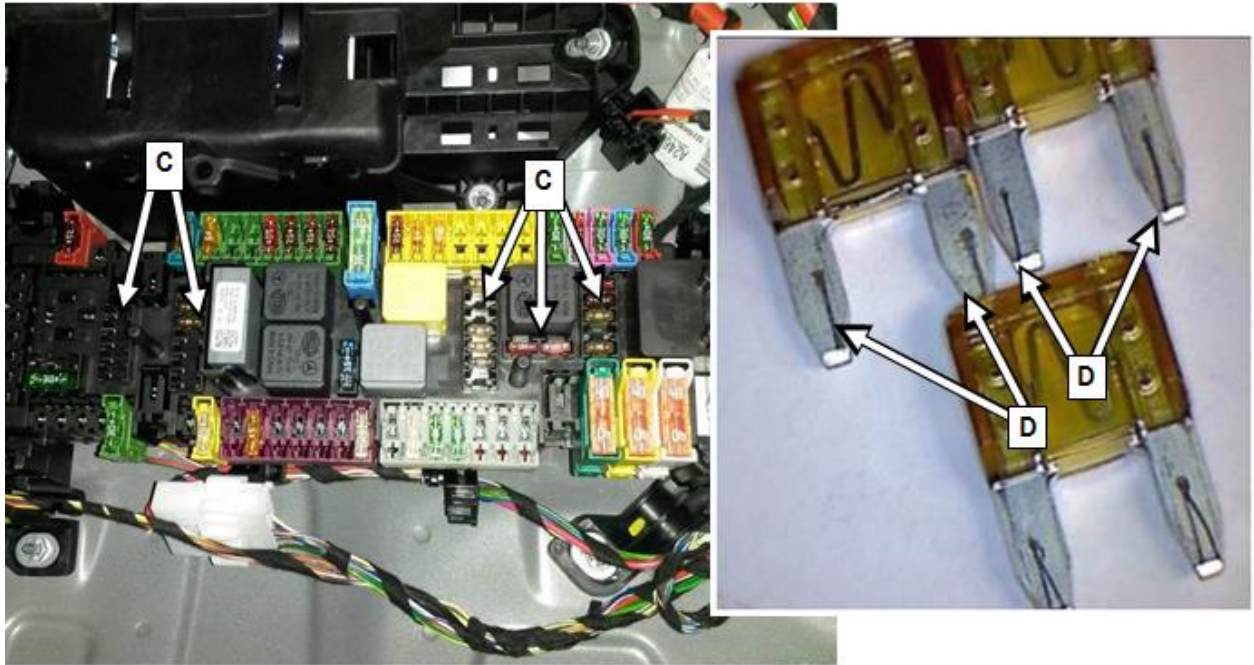

Figure 3
- Remove installed mini fuses (C, Figure 3) and check fuse slots (in fuse box) for visual damage. Check fuses for scratch marks (D, Figure 3) on contact blades at front and backside and then reinstall them.